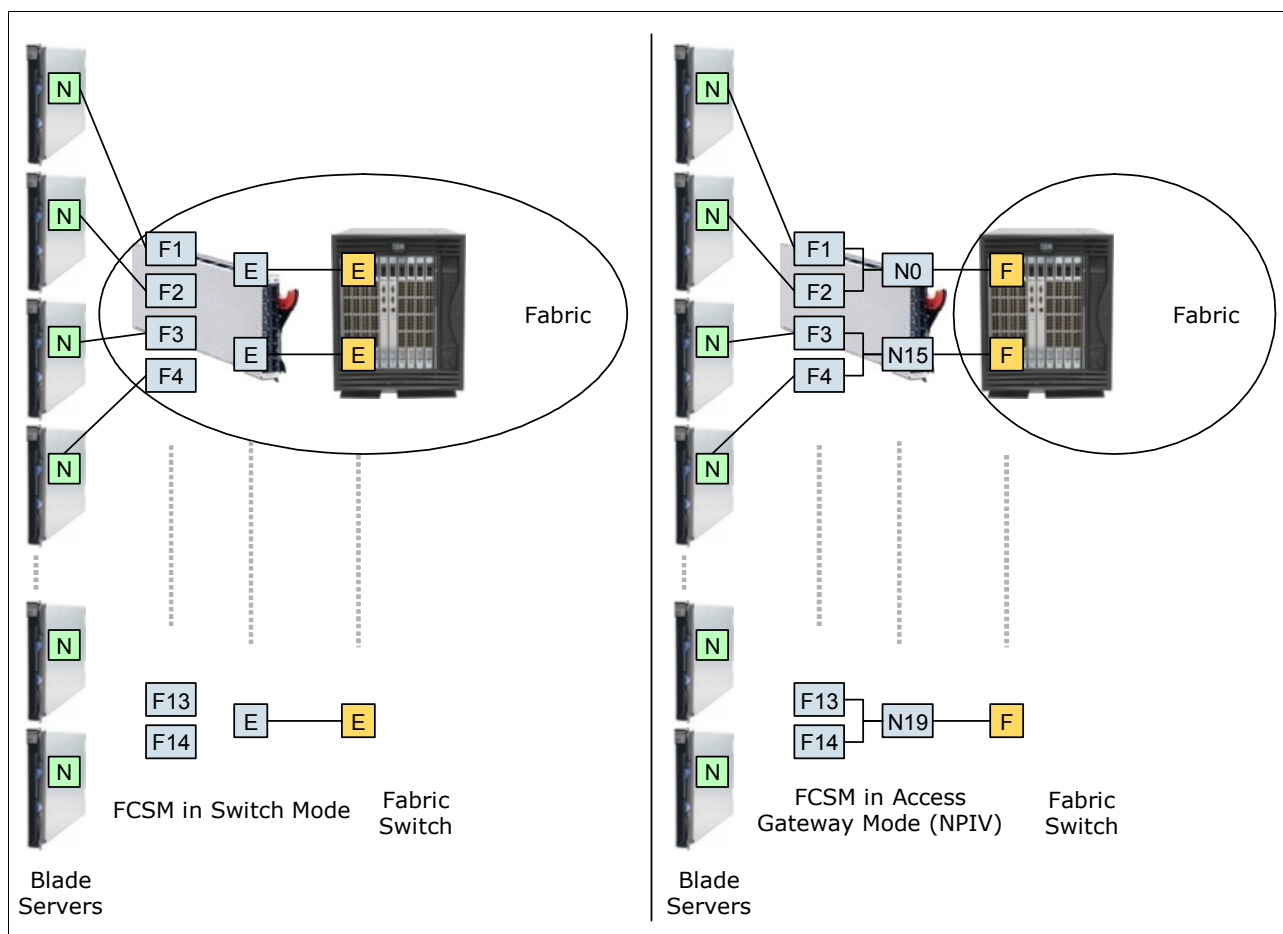

Figure 2-8 Brocade Access Gateway with NPIV technology
- ▶ In a switch or gateway device on the edge of an FC fabric. NPIV technology is used to allow the gateway device to appear as a switch (F_Port) to connecting servers. This technology is also used to allow the gateway device to appear as a node (N_Port) to the edge FC switch to which it connects, acting as *concentrator* for multiple N_Port devices (servers). The gateway device allows attachment of multiple N_Ports but does not use a domain in the FC fabric (see Figure 2-8).
For more information about NPIV, see *Implementing the Brocade Access Gateway for IBM BladeCenter*, REDP-4343. Figure 2-8 illustrates the NPIV concept from this IBM Redpaper™ publication.